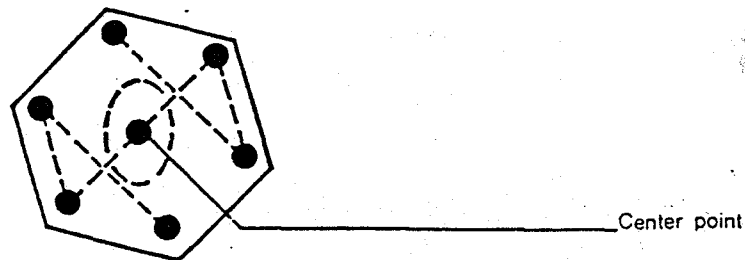

Fig. 15 Matrix Vector Diagram.
- (c) Channel 1 (X) is connected to TP206 (pin 21 of IC202) (R – Y)
- (d) Channel 2 (Y) is connected to TP207 (pin 22 of IC202) (B – Y)
- (e) Adjust amplitude balance VR202 until the centre points of the two wave forms bring together (Fig.15.)
- (f) Adjust T205 until all other points of two waveforms bring together (Fig.15.)